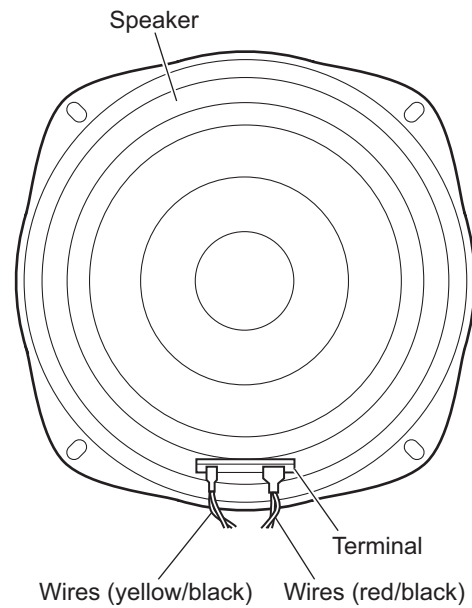

Fig.5
- (2) Take out the speaker from the speaker main body and disconnect the wires (red/black, yellow/black) from the terminal of the speaker. (See Fig.5.)